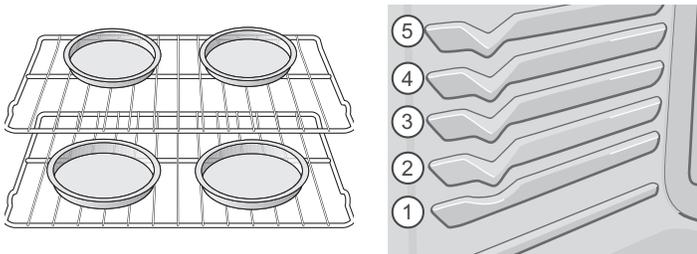

Figure 7: Pan spacing and rack positions
- Allow 2" to 4" (5.1 to 10.2cm) around the utensil(s) for proper air circulation. Be sure the pans do not touch each other, the door, sides or back of the oven. \(Figure 7\)